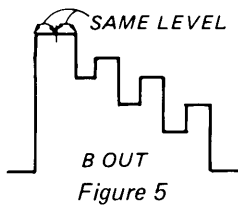

Figure 5
2. Connect 100 k Ω resistor between IC103 pin (13) and ground and release killer.
4. Connect IC104 pin (2) to the +12V line via a 2.2 k Ω resistor and get 4.43 MHz mode.
5. Adjust RV104 (APC-2 4.43 MHz) to get color sync. And adjust B.OUT. (Figure 5)